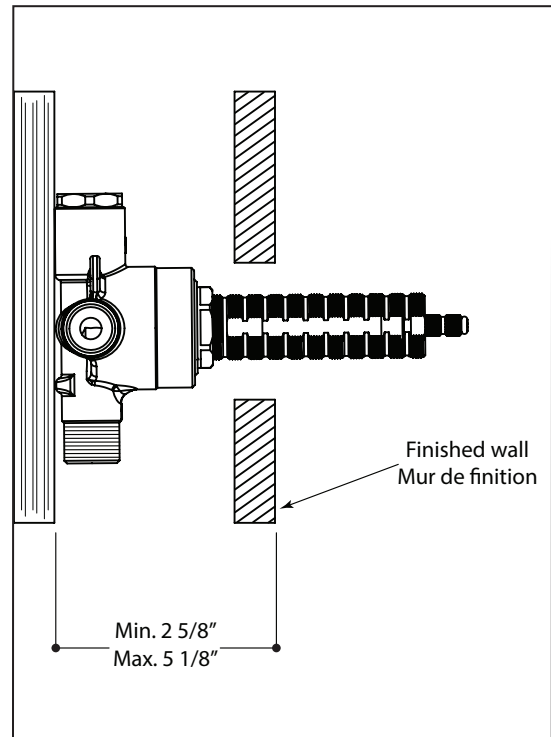

Fig.1
**TO ENSURE PROPER INSTALLATION OF THE VALVE INSIDE THE WALL, IT IS VERY IMPORTANT TO FOLLOW THE RECOMMENDED DEPTH AS INDICATED IN THE ILLUSTRATION (Fig.1).**
**AFIN D'OBTENIR UNE INSTALLATION CORRECTE DE LA VALVE, IL EST IMPORTANT DE RESPECTER LA PROFONDEUR SUGGÉRÉE TEL QU'ILLUSTRÉ (Fig.1).**